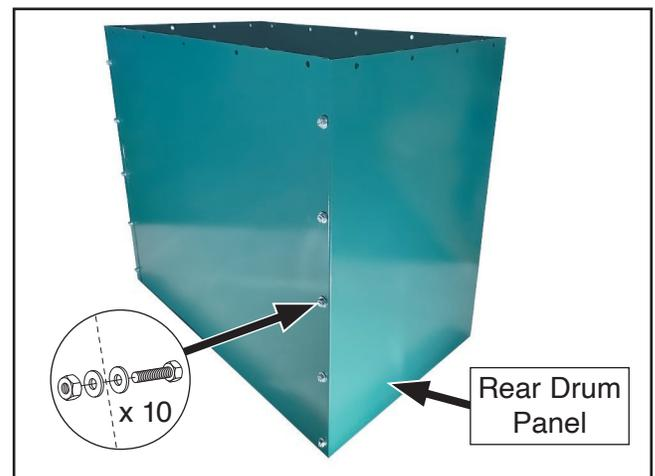

Figure 45. Rear drum panel attached to side drum panels.
33. Attach (1) side drum panel to other side of front drum panel with (5) $\frac{5}{16}$ "-18 x $\frac{5}{8}$ " hex bolts, (10) $\frac{5}{16}$ " flat washers, and (5) $\frac{5}{16}$ "-18 hex nuts.
34. Attach (1) rear drum panel to side panels with (10) $\frac{5}{16}$ "-18 x $\frac{5}{8}$ " hex bolts, (20) $\frac{5}{16}$ " flat washers, and (10) $\frac{5}{16}$ "-18 hex nuts, as shown in **Figure 45**.